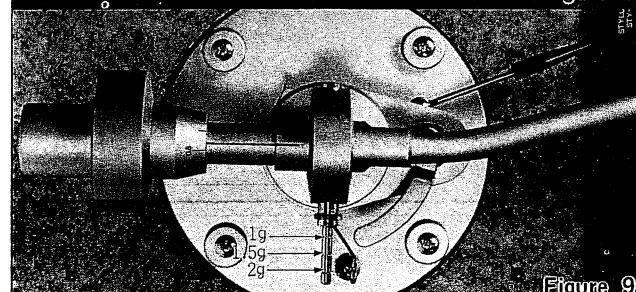

Figure 9
7. Mount the weight on the inside force canceller (anti-skating device). Flock the weight on the groove of bar according the stylus pressure. (Refer to figure 9)